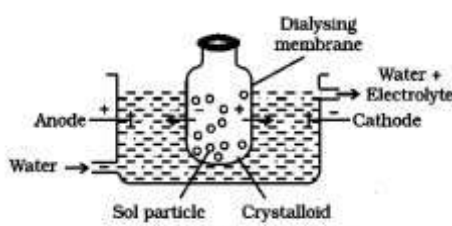

Fig. 5.10: Electro-dialysis
13. **Electro-dialysis:** The process of dialysis is quite slow. It can be made faster by applying an electric field if the dissolved substance in the impure colloidal solution is only an electrolyte. The process is then named electrodialysis. The colloidal solution is placed in a bag of suitable membrane while pure water is taken outside. Electrodes are fitted in the compartment as shown in (Fig. 5.10 page138) . The ions present in the colloidal solution migrate out to the oppositely charged electrodes.